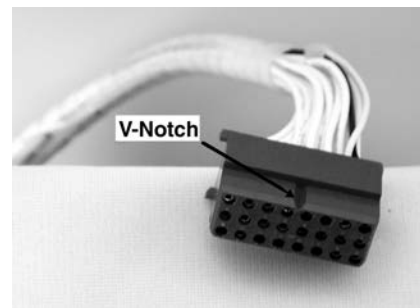

Figure 9 M-2001 Harness Connector
■ **NOTE:** The blue connector is keyed by a "V" notch in the middle to prevent incorrect mating (Figure 9). Check location of the key before plugging connector into the M-2001.